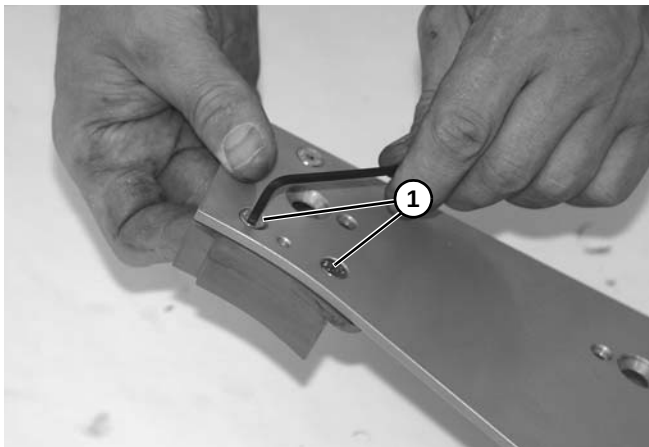

Figure 78
3. Remove two socket head screws (**Figure 78, item 1**).